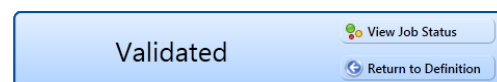

Figure 9-40. Validated Message
- 23 To validate the definition, click the  **Prevalidate** button. When the validation process completes and the following message displays, click  **View Job Status** or  **Return to Definition** (Figure 9-40).